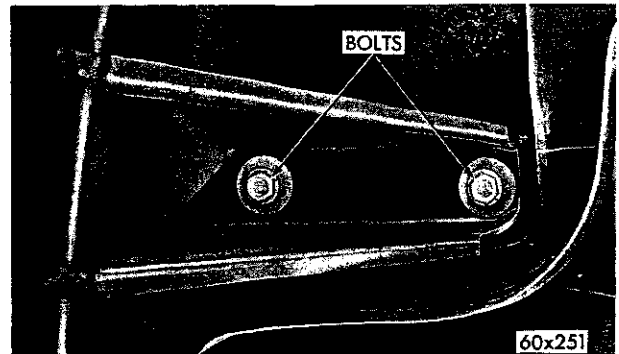

Fig. 10—Body to Frame Outrigger Mounting
(20) Place a hydraulic jack under the stub frame rear crossmember to hold it in position when the body to the frame mounting bolts (Figs. 10 and 11) are removed.